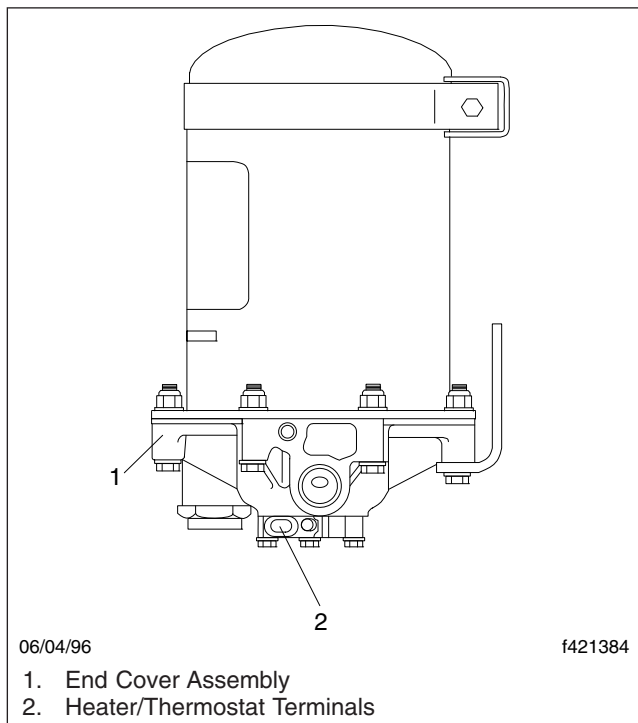

Fig. 4, End Cover Terminals Location
- Use an ohmmeter to check resistance between the terminals on the end cover. See **Fig. 4**. The end cover contains the heater/thermostat. If the heater/thermostat is between 40 and 90°F (5 and 32°C), the heater/thermostat measured resistance will be infinite ohms. If the measured resistance is less than infinity, replace the heater/thermostat.